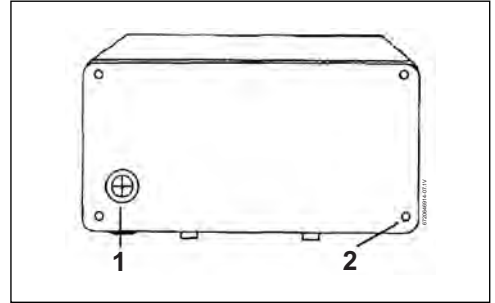

Fig. 10 Back of unit
- If it is going through the back of the unit, cut through the grommet on the backplate with a sharp knife. Make sure that you do not remove the grommet from the backplate (Fig. 10):